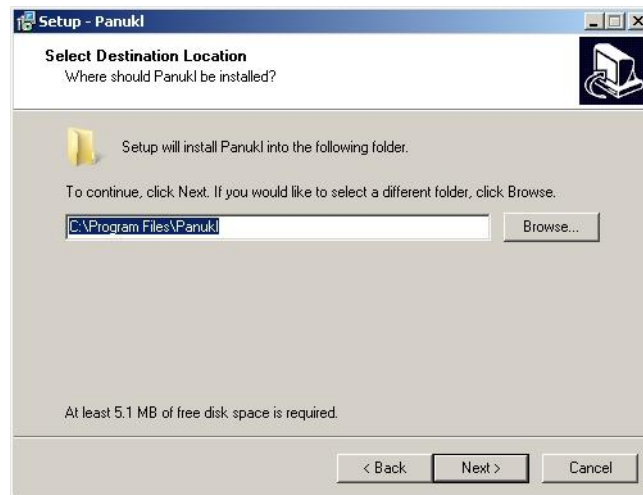

Fig. 20 – Destination Folder selection
**Step 3)** Click **NEXT** button and choose the destination folder for **PANUKL** software to install to. The default setting is **C:\Program Files\Panukl**. Click **BROWSE** button to change the default installation folder Fig. 20.